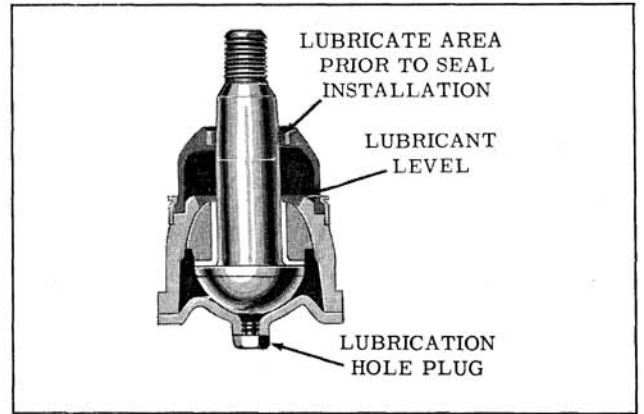

Fig. 9-25 Ball Joint Assembly
9. The saw-tooth area of the seal that fits around the ball stud should be coated with grease. (Fig. 9-25)